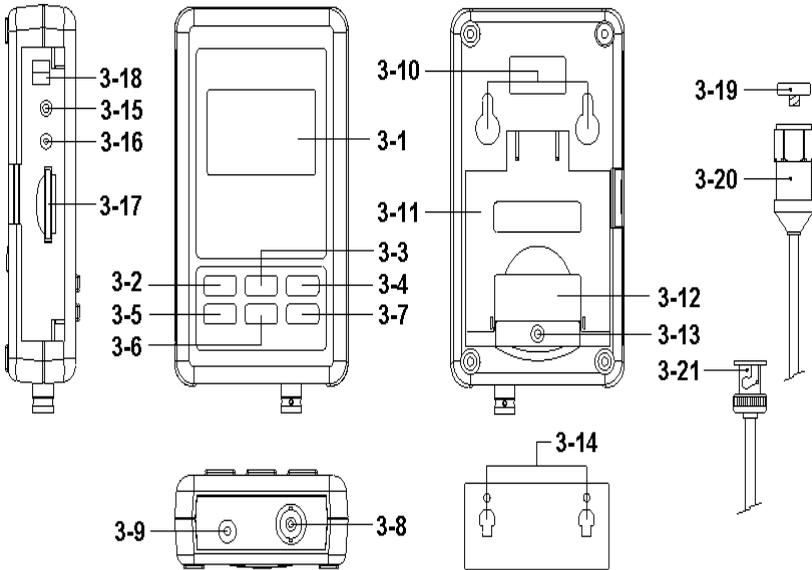

Fig. 1
- \* Loose the " Screw of the battery cover " ( 3-13, Fig. 1 ) and take away the " Battery Cover " ( 3-12, Fig. 1 ) from the meter.
- \* Plug the output plug of " AC to DC adapter " into the " DC 9V power adapter input socket " ( 3-9, Fig. 1 )
Connect the vibration pickup to the cable supplied. Make sure it is firmly attached. Connect the cable to the meter by attaching it to the "BNC connector( 3-8, Fig. 1 ) on the Bottom of the meter. If the surface to be tested is magnetic, attach the magnetic base to the vibration pickup and attach the pickup to a flat surface. If the surface to be tested is not magnetic, hold the pickup against the surface. Do not hold the cable while making measurements.
The currently selected unit of measure is shown on the meter's LCD. To change the unit of measure, press and hold the ▲ Button " Unit Button ( 3-3, Fig. 1 )" until the desired unit of measure appears and then release the button.
"FUNCTION button( 3-6, Fig. 1 )" until the desired function appears, then release the FUNCTION .
To freeze a displayed reading on the LCD, momentarily press the "HOLD button ( 3-4, Fig. 1 )" (the HOLD icon will appear above the reading). To exit HOLD, press the HOLD button again.
Press the "Time button ( 3-5, Fig. 1 )" once, display will be show Year/Month/Date, Hour/Minute/ Second and samling time information.
Prepare a " SD memory card " ( 1 GB to 16 GB, optional ), insert the SD card into the " SD card socket " ( 3-17, Fig. 1) with the correct direction exactly.
Press the " Logger button ( 3-7, Fig. 1 ) > 2 seconds continuously, until the Display show the indicator " DATALOGGER ", release the " Logger Button " ( 3-7, Fig. 1 ), then the measuring data along the time information will be saved into the memory circuit.
During execute the Datalogger function ( Display show the " Datalogger " indicator ), press the " Logger button " ( 3-7, Fig. 1 ) > 2 seconds continuously, until the Display indicator " DATALOGGER " is disappeared, release the " Logger Button " will finish the Datalogger function.
Press " Time button " ( 3-5, Fig. 1 ) > 2 seconds continuously, the LCD display will present the time information of Year/Month/Date, Hour/Minute/Second and the sampling value.